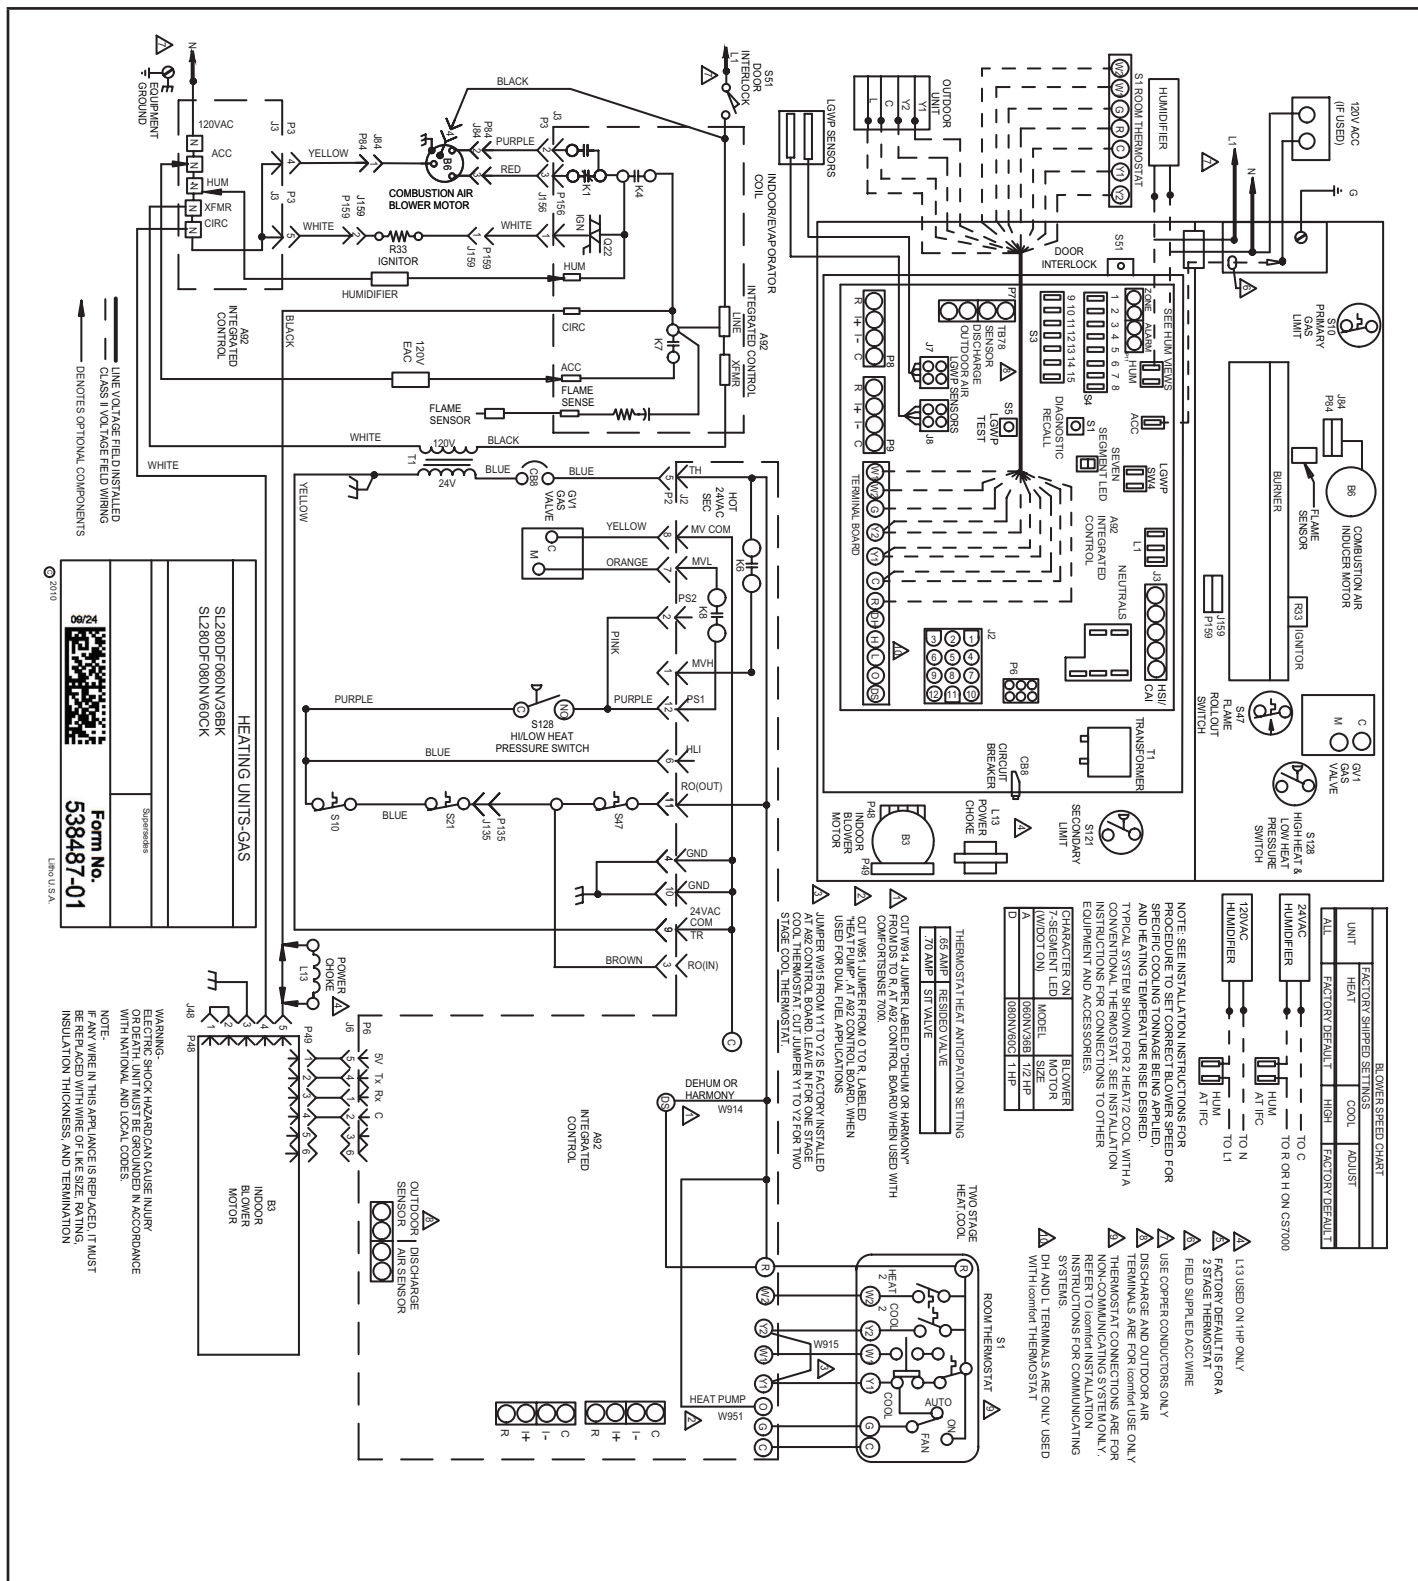

FIGURE 25
**Diagnostic LED (Figure 25)**
**Diagnostic Push Button (Figure 25)**